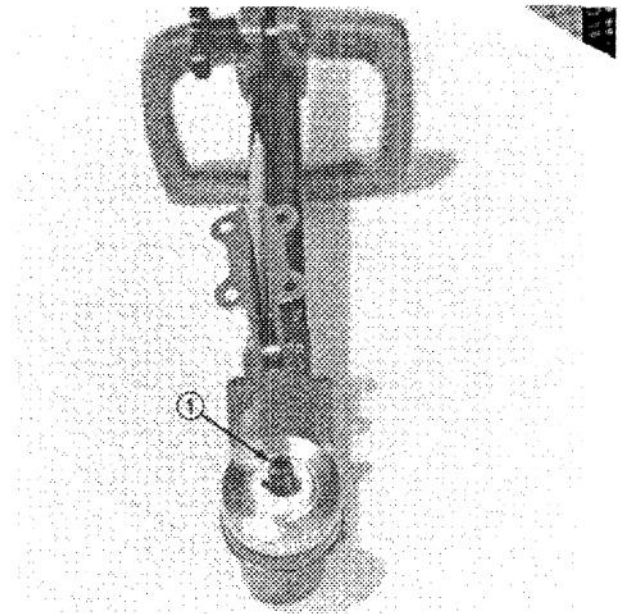
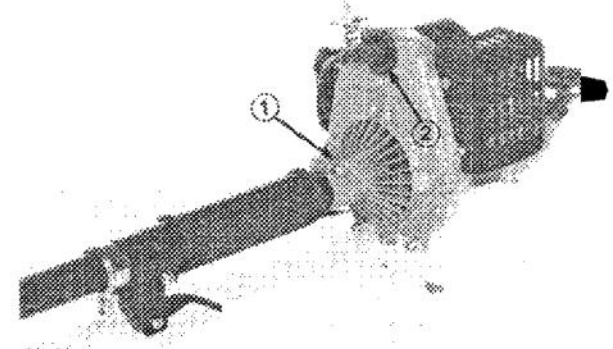

Figure 4
Figure 5
3. Check to make sure output shaft in gear case is in line with center of engine (Fig. 4) and pointing in opposite direction of engine spark plug (Fig. 5). Tighten bolt to secure assembly (Fig. 5).